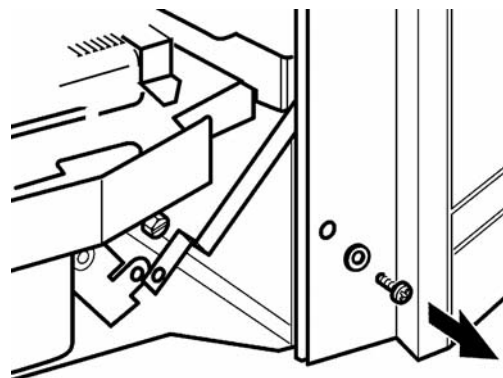

Figure 42. Fascia bottom location
3. Remove the two screws and washers securing the bottom of the fascia to the sides of the hotbox (See figure 42).